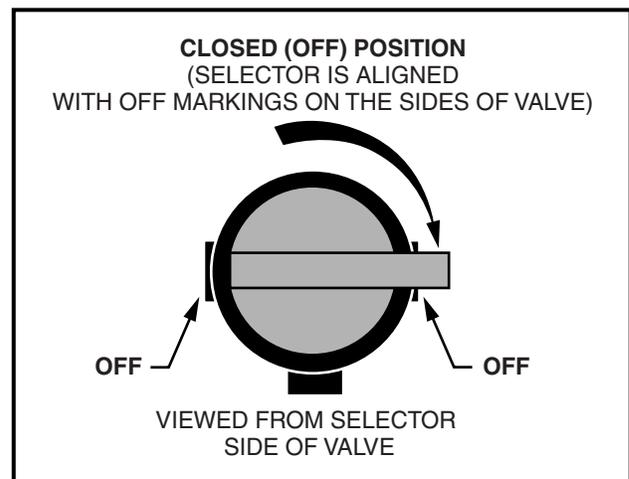

Figure 3-3 Fuel Shut-Off Valve – Closed Position
- Turn fuel shut-off valve to closed (OFF) position (Figure 3-3, Page 3-3).
- 3.1. Place the Forward/Reverse handle in the NEUTRAL position and the neutral lockout cam in the SERVICE (MAINTENANCE) position. Turn the fuel shut-off valve to the closed (OFF) position (**Figure 3-3, Page 3-3**) and run the engine until fuel remaining in the carburetor and fuel lines is depleted and the engine stalls. Return the neutral lockout cam to the OPERATE position.